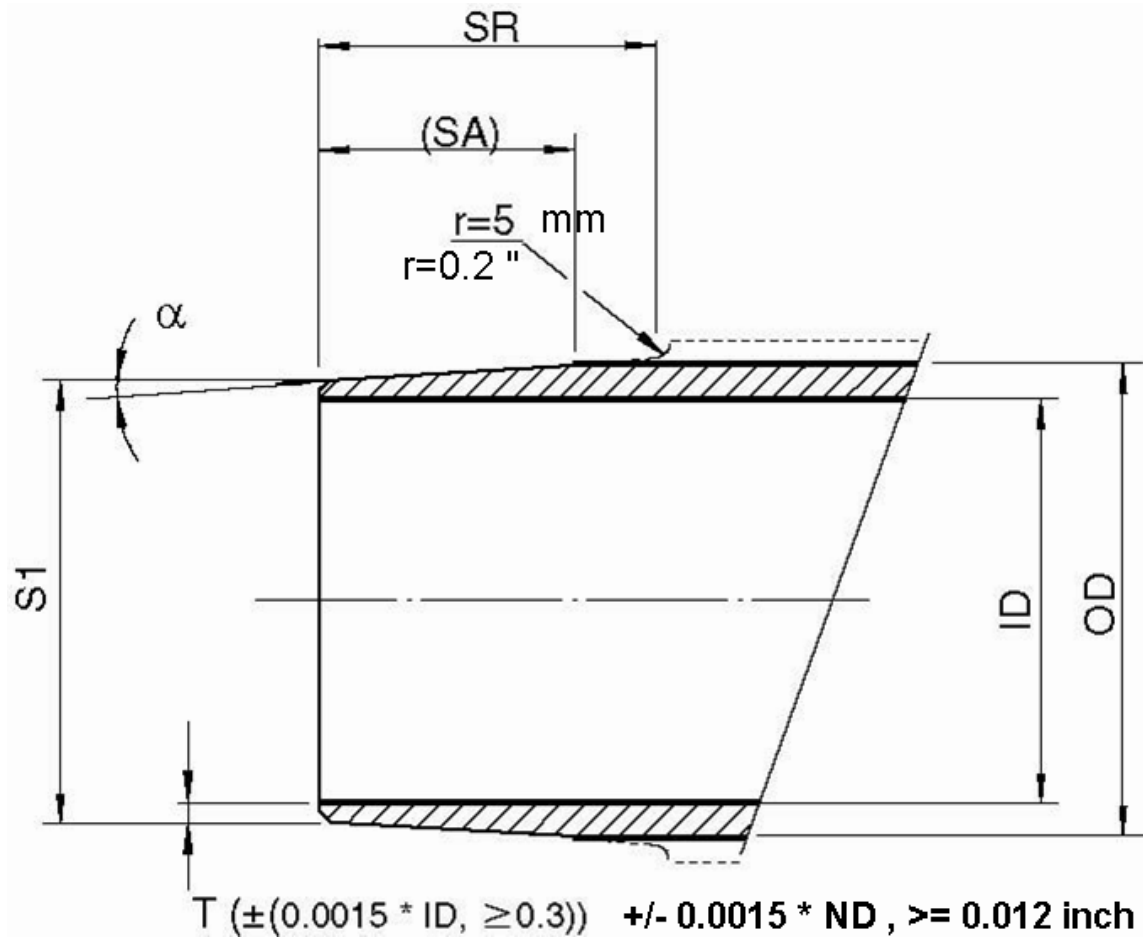

Figure 1. Dimensions of spigot end (TS)
9.3 Pipe sections shall be aligned as true as possible. Any visual misalignment is unacceptable. Pull the sections to be bonded together using a lever hoist (or similar device) and make sure that the required spigot length (SA, see Annex A, figure 1) shifts into the bell end. Take up slowly and work the joint together, taking care to keep the alignment. Keep pulling until the spigot does not enter any more into the bell, and keep the assembly force on the joint. When properly inserted, the mark on the spigot end (see section 4.5) will be positioned between  $[X + C]$  and  $[X]$  from the head of the bell end (see section 4.5 and 4.9 for X and C).
Table 5. Dimensions of spigot end (TS) - see figure 1